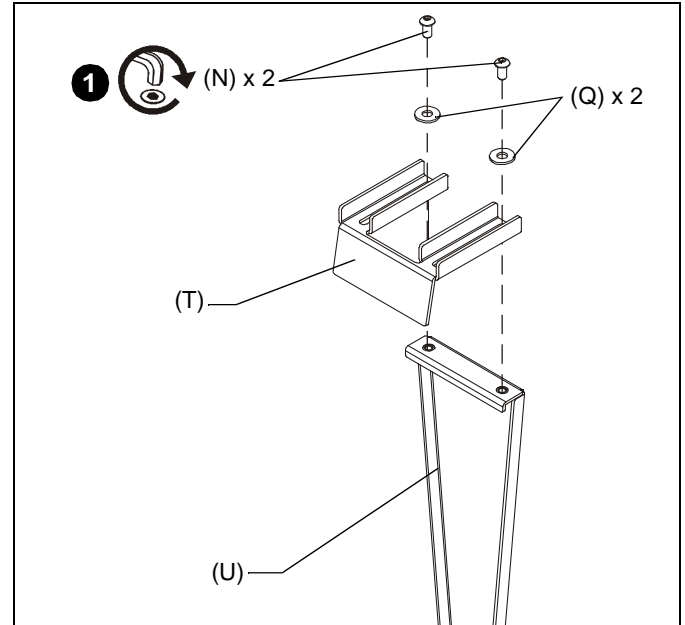

Figure 4
- Assemble one hook bracket (T) to one vertical bracket (U) using two 1/4-20 x 1/2" button head cap screws (N) and two 1/4" flat washers (Q). (See Figure 4)